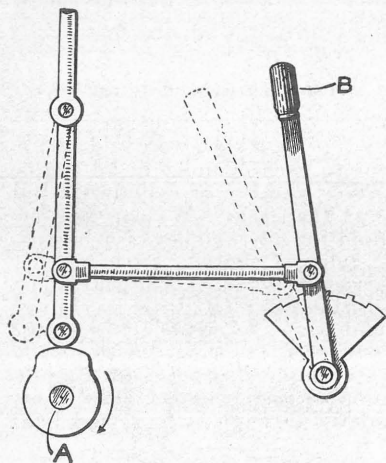

Fig. 8.—Advance and retard gear.
Timing the ignition.—We have said that one of the advantages of electric ignition is that the moment of sparking can be altered to suit exactly the speed of the engine. We know that ignition must take place at about the beginning of the firing stroke, and so we simply set the "cam" of our "trip gear" in such a position that the tappet will be released as the piston begins to descend. There are several ways in which we can get the slight variation in timing that is required. Fig. 8 shows one arrangement, in which the tappet is hinged near its lower end so that it can be moved across the cam. The camshaft (A) is supposed to be turning in the direction shown. The cam has just raised the tappet, allowing contact to be made in the cylinder, but it is about to release it, breaking the contact and producing the spark. We will suppose the cam to be so set that this spark takes place exactly at the top of the stroke. If we want to run the engine faster we must lift and also release the tappet earlier, which is done simply by swinging it over to the position shown by the dotted line. This is called "advancing the ignition." To "retard" the